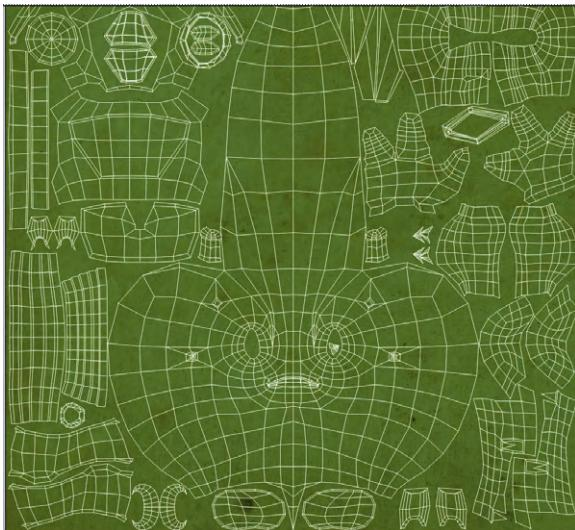

FIG 6.36 Breaking up the green with a noise layer using Soft Light for blending.
Step 5: Break up the green field with blended layers. Do this by first finding a nice noisy texture from CG Textures (or elsewhere). Download it, copy and paste it into the GameCharacterRaw file. Be sure this new layer is on top of the green skin base layer and change the Blend Mode to Soft Light (or to taste – there are various Blend Modes that could be used here (Fig. 6.36)).